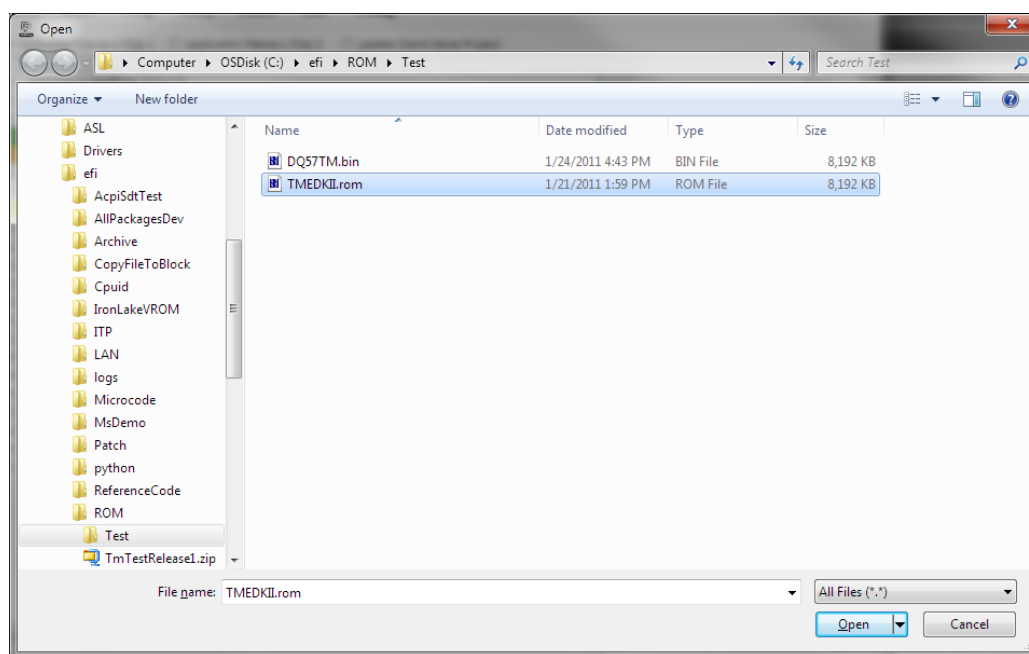
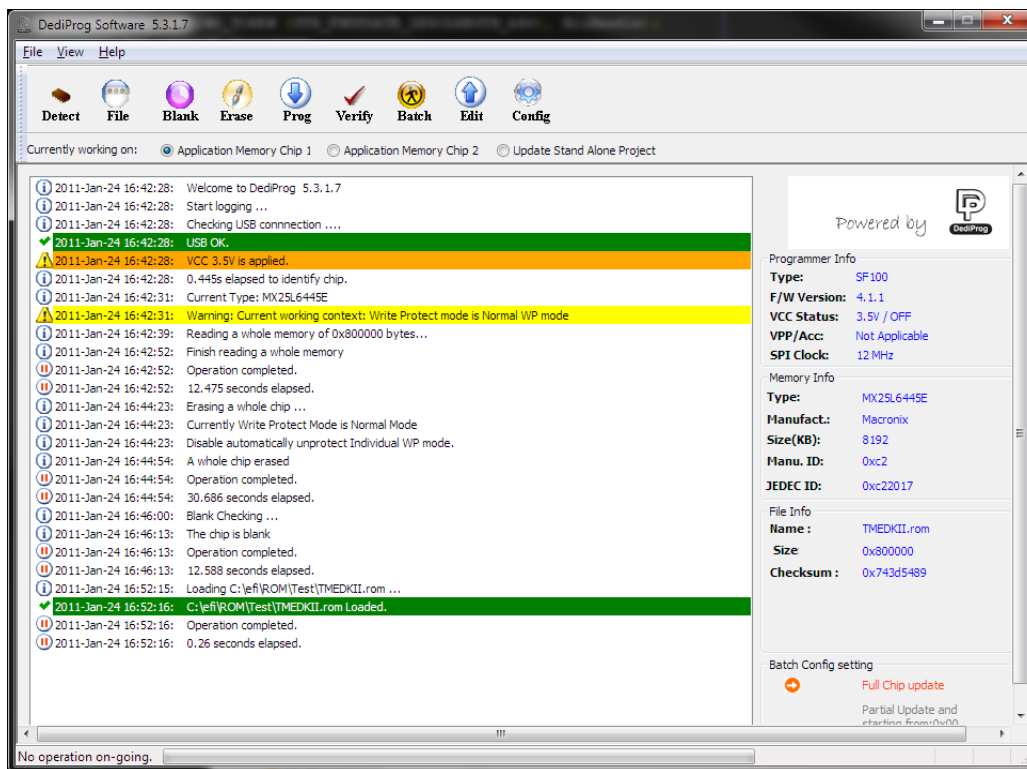

Figure 3-19. Select the file to load.
Figure 3-20. Event log after the file is loaded into the buffer.
3. Browse to the location where you saved the extracted UEFI 2.3.1 BIOS images, and select the appropriate BIOS image file to program. This is the BIOS image you downloaded from the Intel® Web site. Figure 3-19 shows an example pathname. Figure 3-20 shows the event log after the file is loaded into the memory buffer.